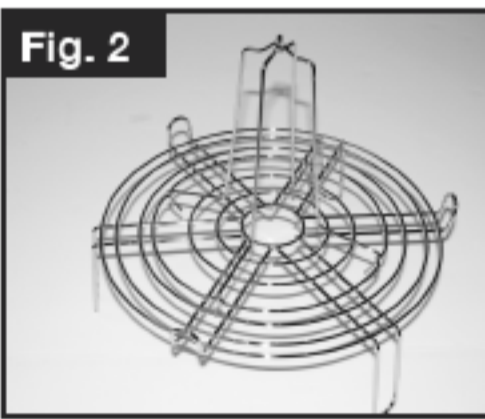

Fig. 2
- To position the Roasting Rack onto the High Rack, attach the ends of the Assembled Roasting Rack to the designated curves on the High Rack (Fig. 2).